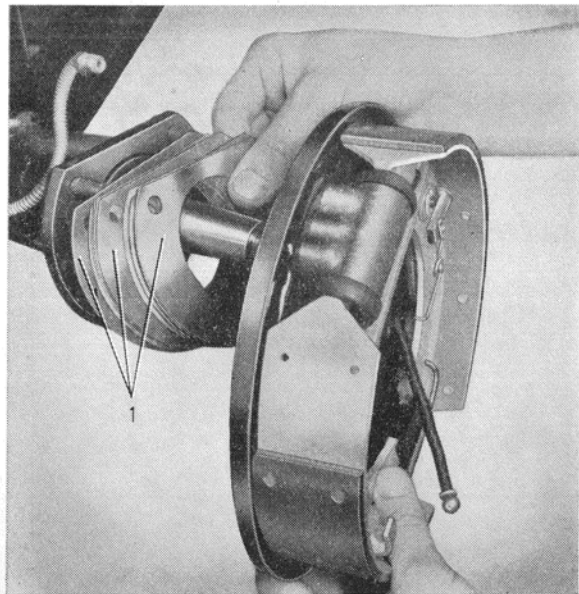

Fig. 22. Fitting the brake backing plate.
4. Fit the brake backing plates as shown in fig. 22 at the same time as the shims (49) which were removed earlier are re-fitted and the felt washers (8) on both sides and tighten the bolts (48) finally. Examine the rubber sleeve where the handbrake cable passes through the brake backing plate. Replace the sleeve if necessary. Strike the ends of the axle shafts with a mallet so that